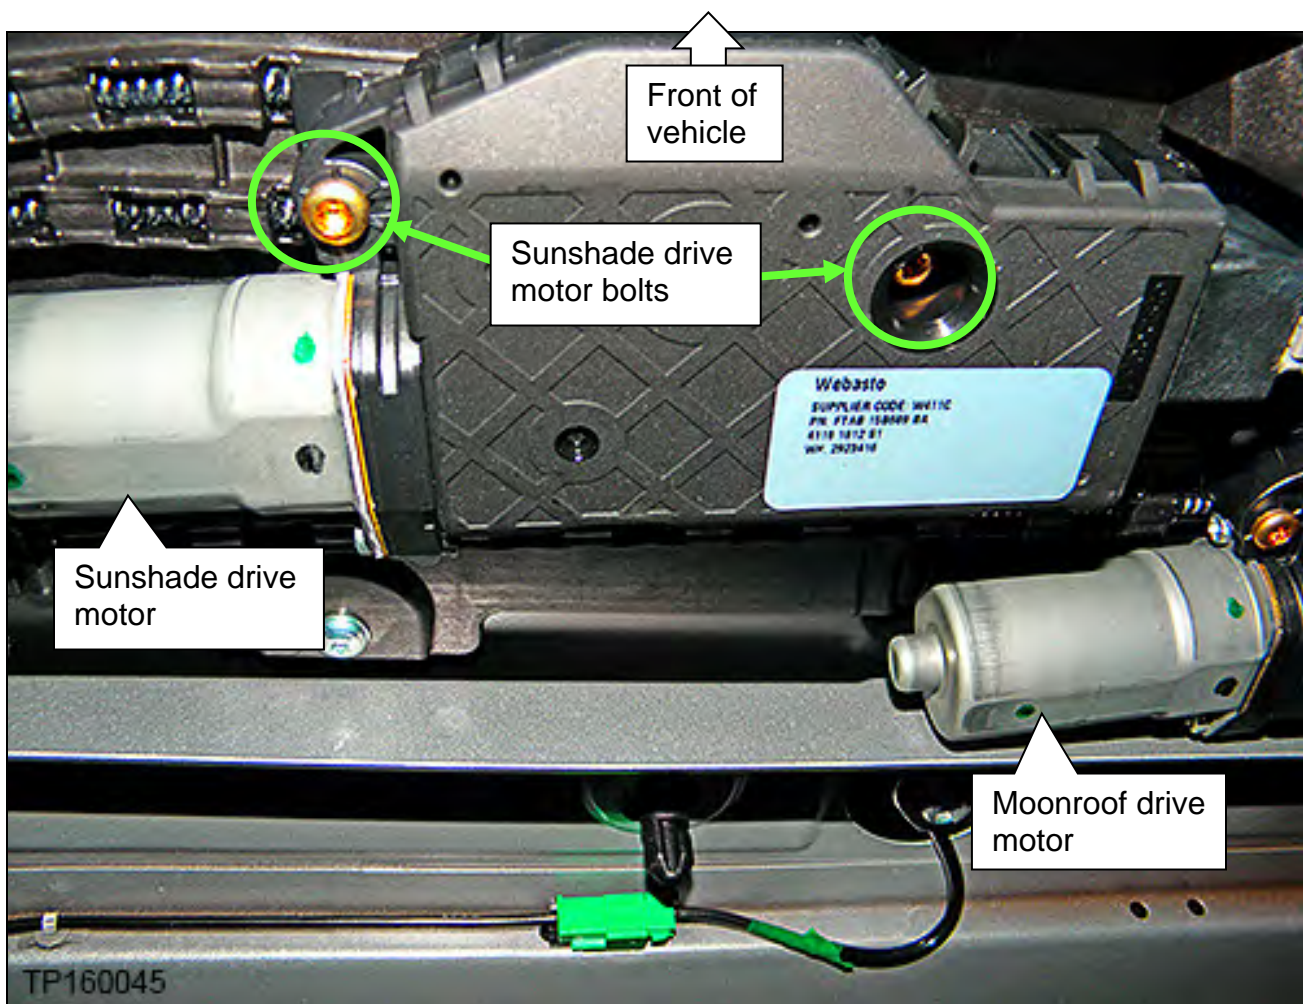

Figure 72
- Figure 72 shows the sunshade drive motor bolts (T25). The moonroof drive motor bolts are similar.